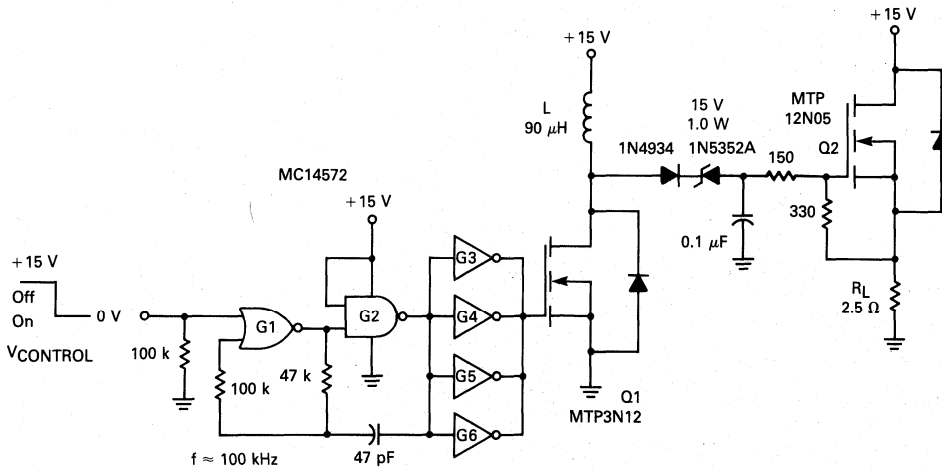

FIGURE 6-36 — N-CHANNEL SOURCE FOLLOWER WITH FLYBACK CONVERTER DRIVE
Another circuit for raising the gate voltage well above the supply voltage, one that uses a flyback converter, is shown in Figure 6-36. The power switch used in this converter, an MTP3N12 power MOSFET (Q1), is easily driven by the CMOS, 100 kHz, astable multivibrator (MV). This circuit uses two of the Hex Inverter MC14572 gates (G1 and G2) as the MV with the remaining four inverters, in parallel, providing the gate-drive to the FET, about 25 mA peak to charge  $C_{ISS}$ . When Q1 turns on, the drain current ramps-up to about 0.8 A and upon turn-off, the flyback voltage reaches about 60 V. This inductor stored energy is then dumped into the diode-resistor-capacitor load circuit to provide the bias for the power FET switch Q2 (MTP12N05), about 13 V gate-source (28 V gate-ground). The series connected 15 V zener diode blocks the  $V_{DD}$  supply from reaching the gate of Q2, when Q1 is off.